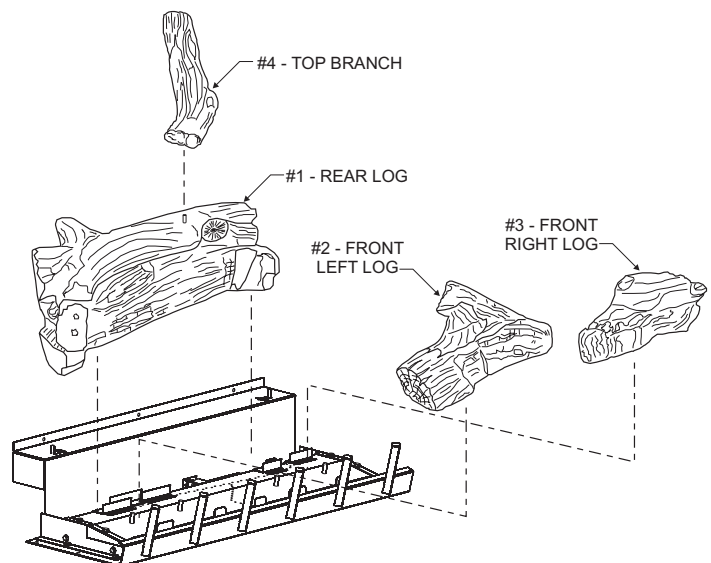
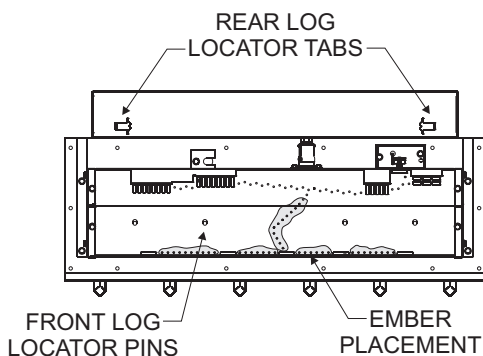

Figure 65
Figure 63
The positioning of logs is critical to safe and clean operation of this fireplace. Sooting and other problems may result if the logs are not properly and firmly positioned in the fireplace. Please refer to **Figure 63**, **Figure 64**, and **Figure 65** and corresponding **WARNING**, when completing the following log placement steps.
9. After all logs are properly positioned, place small "dime" size pieces of Rockwool lightly across the front round "blueflame" ports. Place the ember material (Rockwool pieces) side by side. Do not stack more than one layer of embers across the burner ports. **See Figure 63.**
Attention: Do not use **Figure 64** or **Figure 65** to order logs. Refer to parts view on page 66 and parts list on pages 67 and 68 to order logs and/or ember material for your appropriate fireplace model.